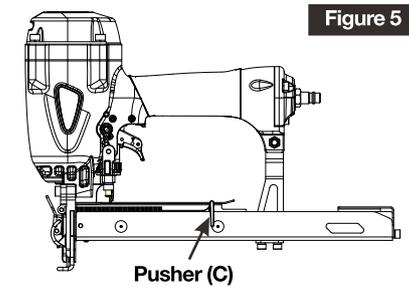

Figure 5
5. Release the Pusher (C) from the end of magazine to let it go back to move fasteners up to the driving mechanism. The Pusher (C) will stop when it rests against the end of the fastener. (See Figure 5)